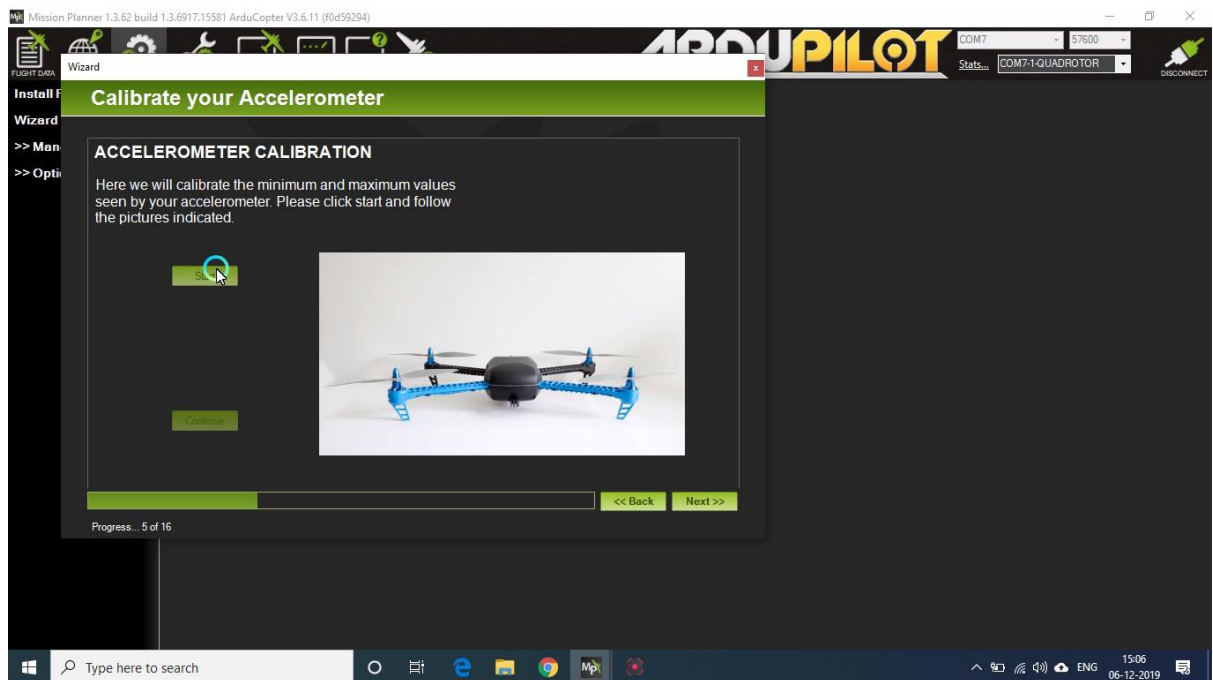

Fig.4.6
7. Now click start and do the accelerometer as per the instruction. Refer Fig.4.6. Place the vehicle level click continue. Similarly, place the vehicle left, right, nose up, nose down and upside down.